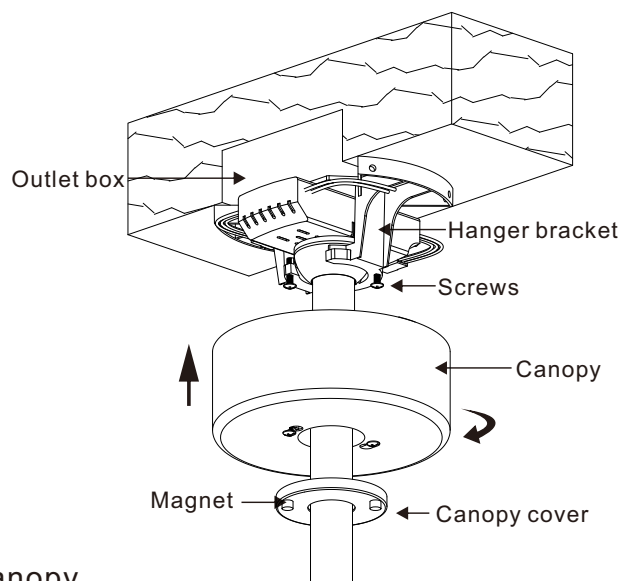

Figure 18
**Step 2.** Loosen the two screws on the bracket. Slide the canopy up to hanger bracket and place the key hole on the canopy over the screw on the hanger bracket, turn canopy until it locks in place at the narrow section of the key holes then tighten the two screws.(Fig.18)